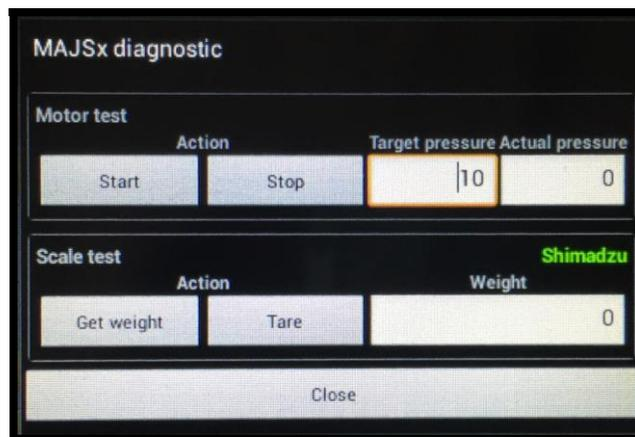

Figure 26
- j) **Diagnostics.** The diagnostics button opens a window that will perform testing of the wand motor and scale. (Figure 26)
- f) There is an eight (8) Test Sieve Screen selection limitation for the printing of each analysis.
- g) Due to the small size of the window that displays the selected test sieves screens, the number of the selected screens is indicated on the right side of the SCREENS PAGE, above the MSA (Micron Sieve Adapter) window. (See Figure 26)